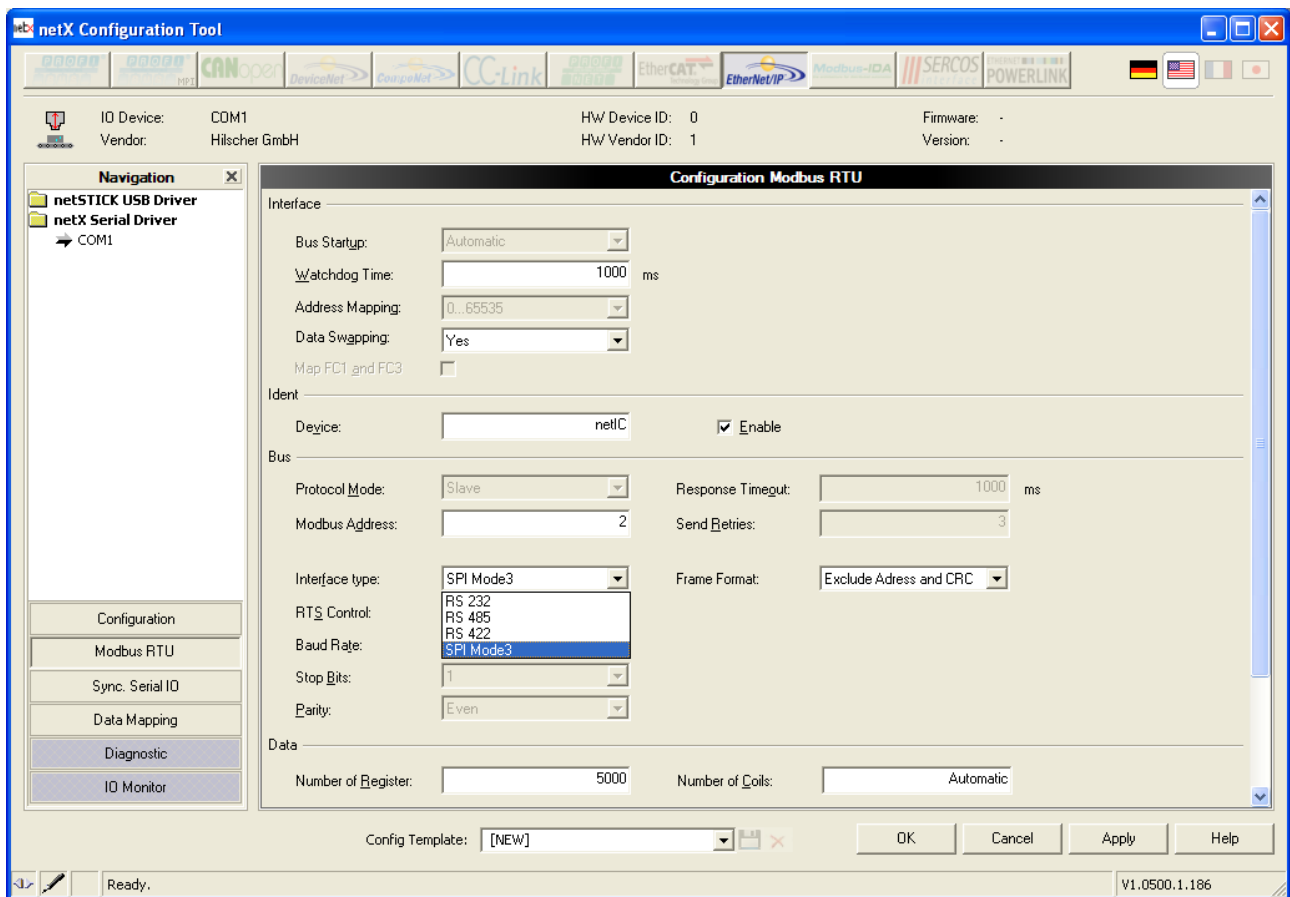

Figure 68: Modbus RTU Configuration Page in netX Configuration Tool - Parameter "Interface Type"
- In netX Configuration Tool, switching to SPI Mode is done by selecting the option **SPI Mode 3** instead of RS232, RS422 or RS485 within the combo box of the parameter **Interface Type** in the Modbus RTU Configuration Page of the netX Configuration Tool. This combo box is displayed in opened state in *Figure 68*.